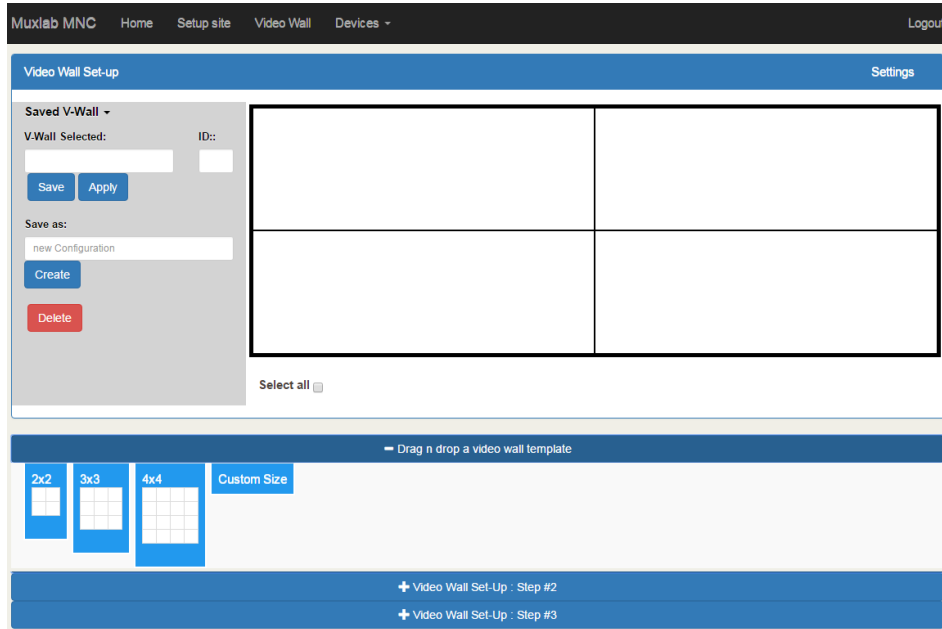

Figure 101: Video Wall Tab – Newly Created 2x2 Video Wall
- c. Once created, the display pane shows an empty (unpopulated) video wall consisting of 4 monitors (Figure 101).